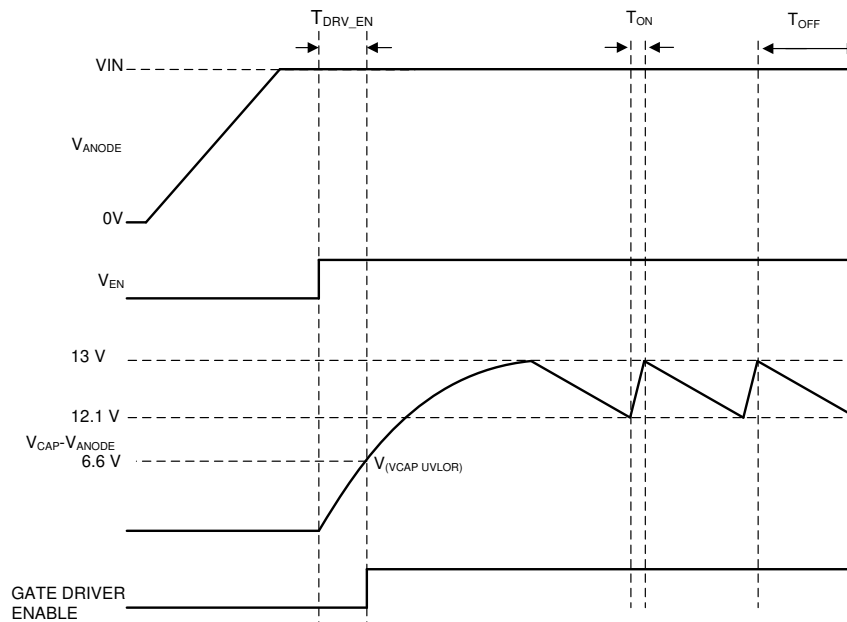

Figure 9-1. Charge Pump Operation
- . To remove any chatter on the gate drive approximately 900 mV of hysteresis is added to the VCAP undervoltage lockout. The charge pump remains enabled until the VCAP to ANODE voltage reaches 13 V, typically, at which point the charge pump is disabled decreasing the current draw on the ANODE pin. The charge pump remains disabled until the VCAP to ANODE voltage is below to 12.1 V typically at which point the charge pump is enabled. The voltage between VCAP and ANODE continue to charge and discharge between 12.1 V and 13 V as shown in Figure 9-1. By enabling and disabling the charge pump, the operating quiescent current of the LM74700-Q1 is reduced. When the charge pump is disabled it sinks 5- μ A typical.